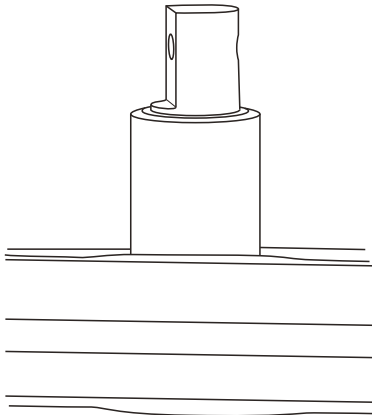

Figure 77: Set D-Pin Clocking Position (Angle) to Marks
3. Line up the D-Pin bush with the clocking line that was put on the support beam prior to the removal of the D-Pin bush. Refer Figure 77.